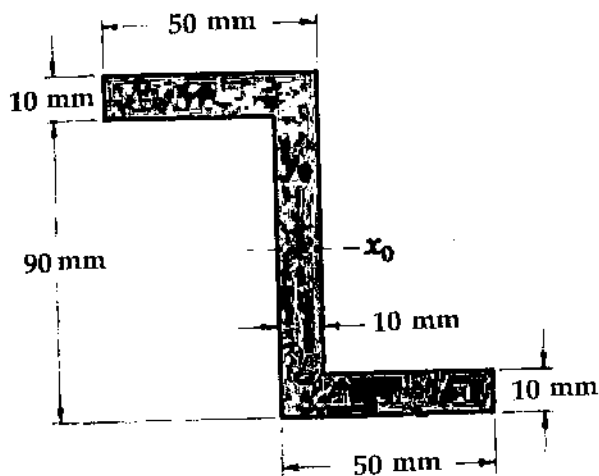

Fig. Q1
1. Determine the moments of inertia and product of inertia of the Z-section about its centroidal x_0 - and y_0 -axes (Fig. Q1).